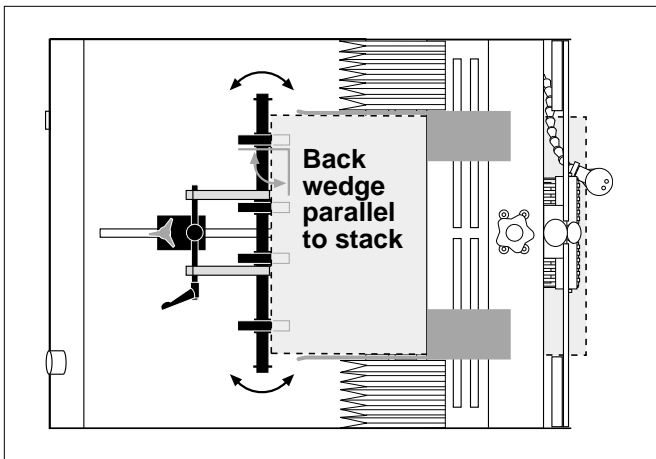

Figure 3-12. Adjusting Back Wedge for Parallel
5. Make sure the edge of the back wedge assembly is parallel with the edge of the material stack (Figure 3-12). Adjust as required and then tighten wing-nut.